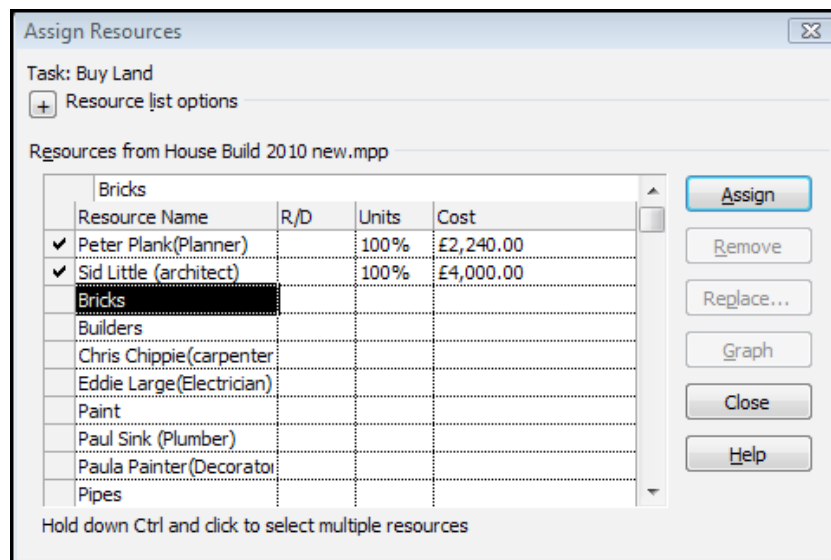

Figure 5-8: Assign Resources Dialog
- i. From the Insert group, on the resource tab click add Resources a menu will appear.(figure 5-8)